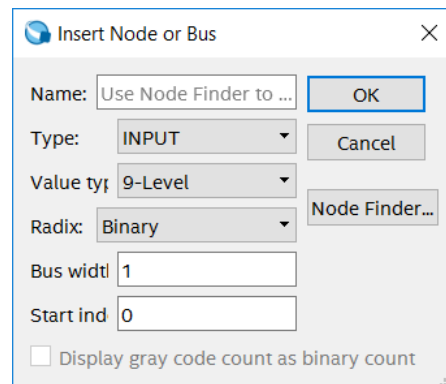
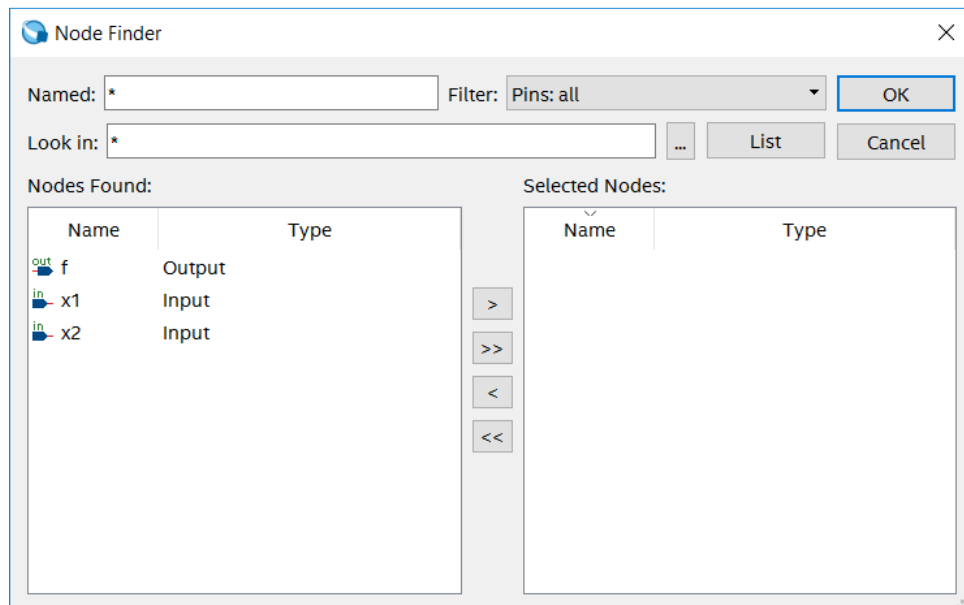
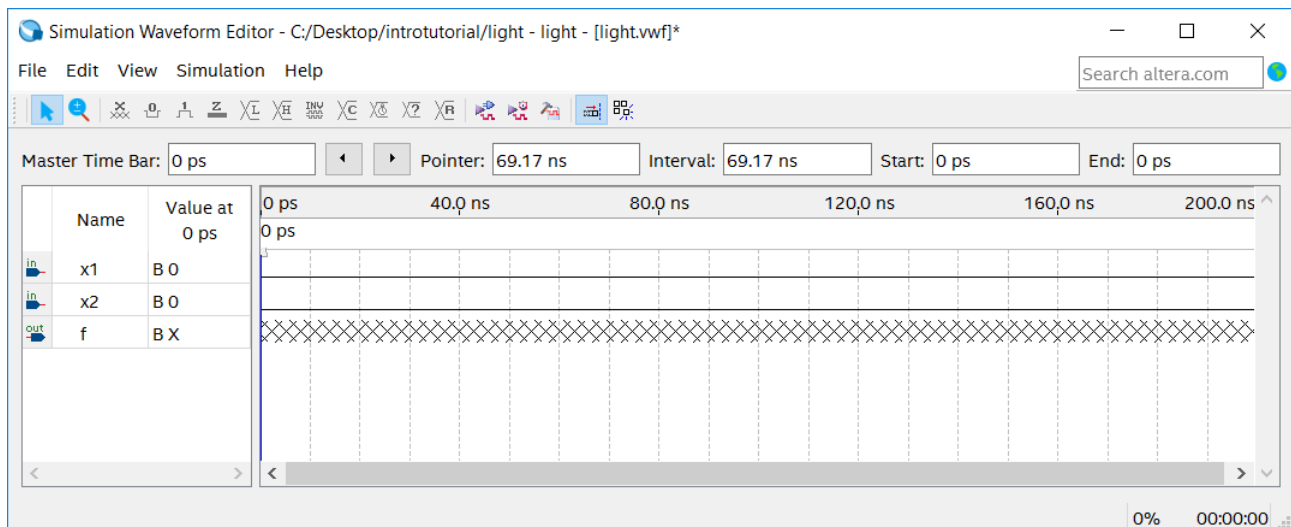

Figure 33. The Insert Node or Bus dialogue.
Figure 34. Selecting nodes to insert into the Waveform Editor.
Figure 35. The nodes needed for simulation.
- Next, we want to include the input and output nodes of the circuit to be simulated. Click **Edit > Insert > Insert Node or Bus** to open the window in Figure 33. It is possible to type the name of a signal (pin) into the Name box, or use the Node Finder to search your project for the signals. Click on the button labeled **Node Finder** to open the window in Figure 34. The Node Finder utility has a filter used to indicate what type of nodes are to be found. Since we are interested in input and output pins, set the filter to **Pins: all**. Click the **List** button to find the input and output nodes as indicated on the left side of the figure.
Click on the *x1* signal in the Nodes Found box in Figure 34, and then click the > sign to add it to the Selected Nodes box on the right side of the figure. Do the same for *x2* and *f*. Click OK to close the Node Finder window, and then click OK in the window of Figure 33. This leaves a fully displayed Waveform Editor window, as shown in Figure 35. If you did not select the nodes in the same order as displayed in Figure 35, it is possible to rearrange them. To move a waveform up or down in the Waveform Editor window, click within the node's row (i.e. on its name, icon, or value) and drag it up or down in the Waveform Editor.